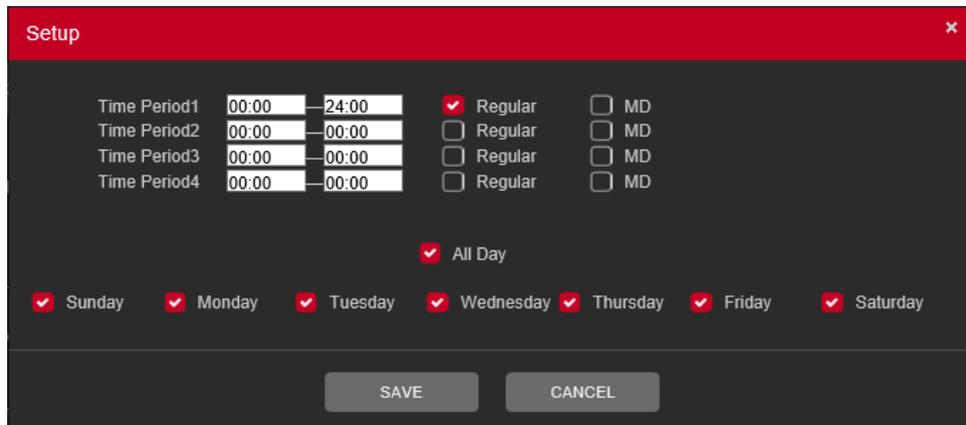

Figure 5.59
- **[Setup]** Here user can define record period, Recording type and Week days for Schedule recording. Interface as shown in Figure 5.59.